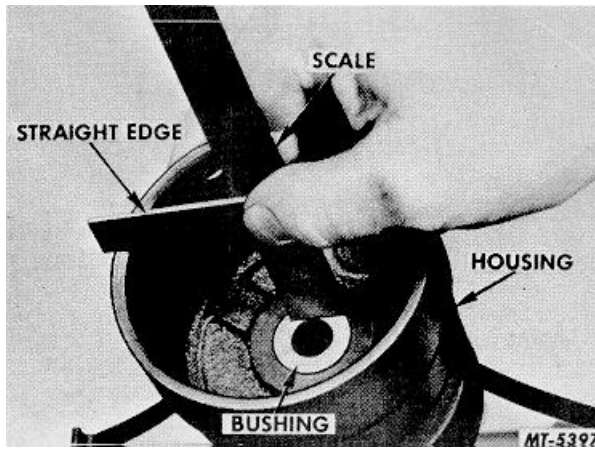

Fig. 53 Using Straight Edge and Scale to Locate Upper Bushing in Housing
10. Press upper bushing into housing to a 1-51/64" dimension from top of housing to top of bushing. Use a straight edge and scale to measure this distance (Fig. 53).